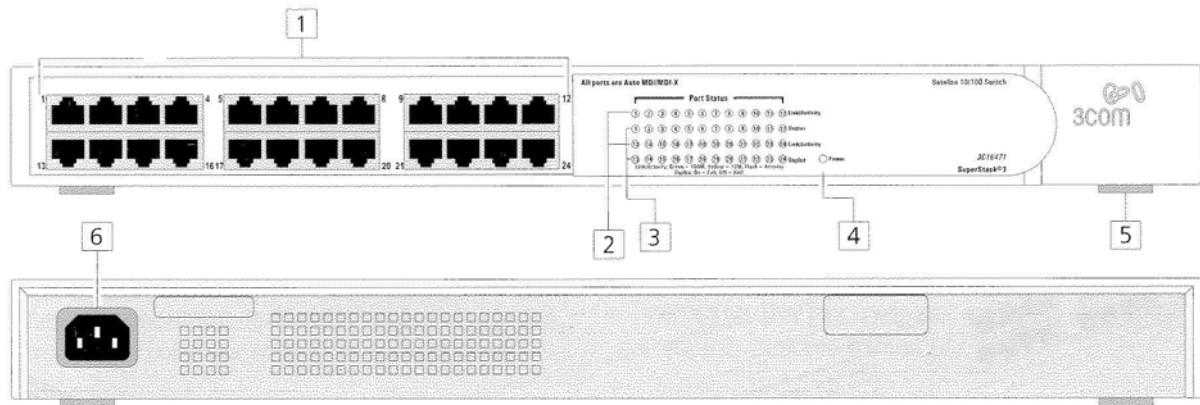

Figure 48 : Switch 16 port SuperStack 3 baseline 10/100 front and rear panels
The Switch 16 port SuperStack 3 baseline 10/100 front panel is composed of (see Figure 48) :
The Switch 16 port SuperStack 3 baseline 10/100 rear panel is composed of (see Figure 48) :
- A2 (Indicators) aid is provided by the LEDs located on the front panel of Switch 16 port SuperStack 3 baseline 10/100 (Figure 48). The role of the different LEDs is detailed in Figure 48 description.
- To switch ON the Switch 16 port SuperStack 3 baseline 10/100, plug the power supply cable on the rear panel of the unit (refer to Figure 48). A self-test is performed after power-up. The Power LED located on the front panel indicates the operational status of the unit (refer to Figure 48).
- To switch OFF the Switch 16 port SuperStack 3 baseline 10/100, unplug the power supply cable on the rear panel of the unit (refer to Figure 48).
- ☞ Refer to Figure 48.